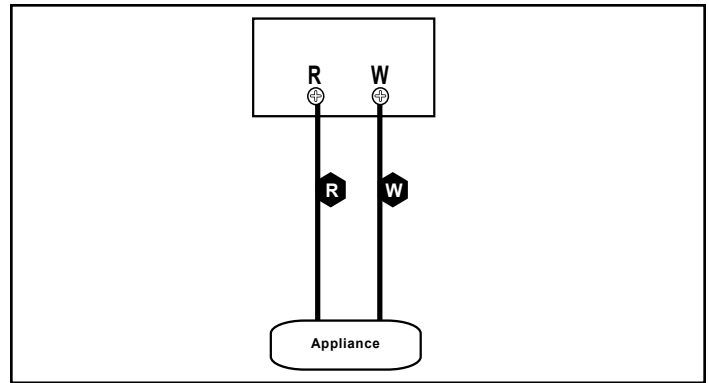

Figure 22.2
5. Connect your thermostat wire to the W and R terminals (**Figure 22.2**).